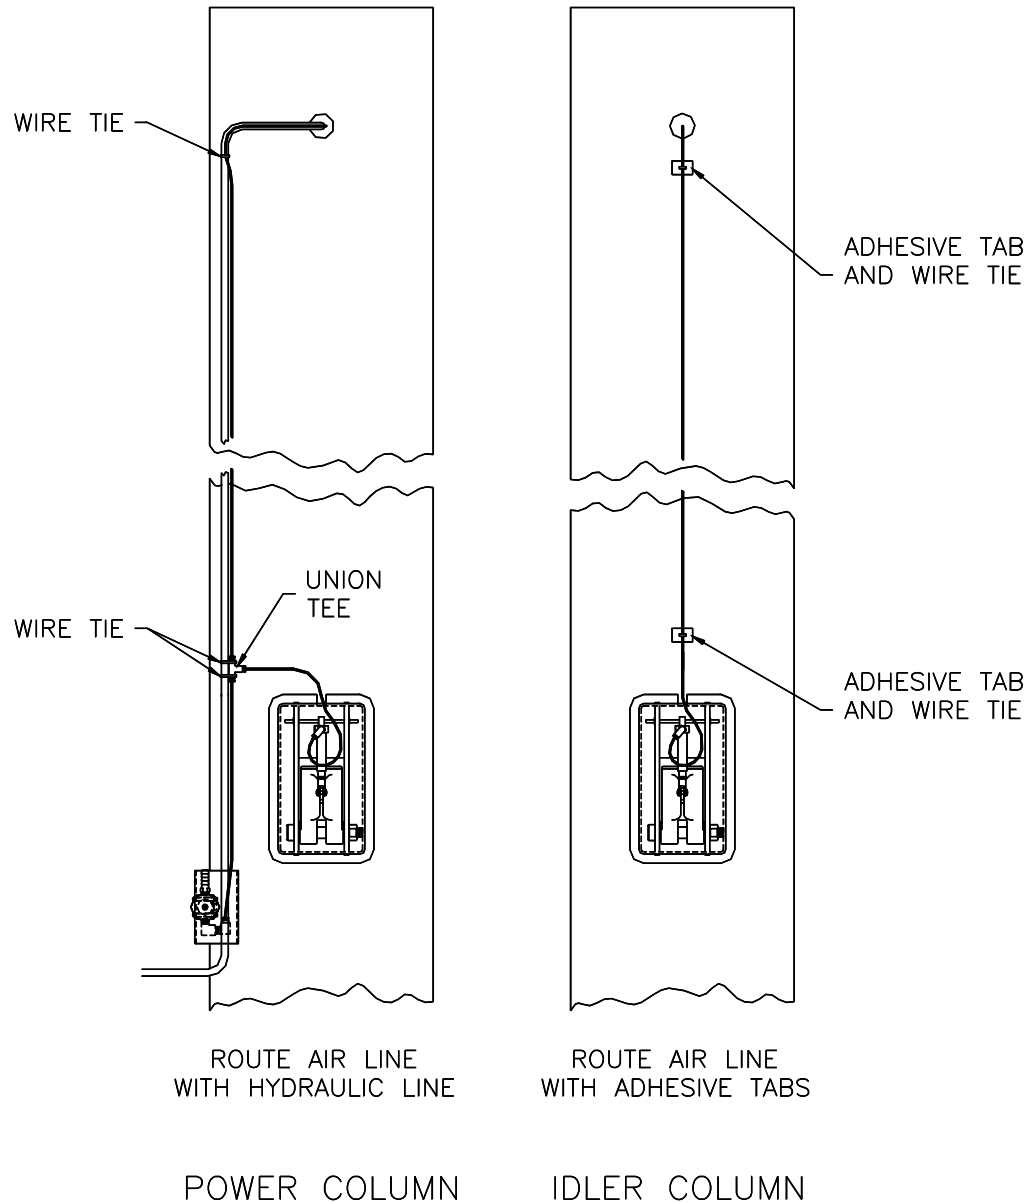

Figure 9
2. Be certain that the wiring in your building will handle the current required to operate this unit (Fig 9).
16. Route the 1/8" air line (Fig. 9). Be certain not to kink or pinch the hose. Connect the button valve to a source of **clean, dry air** using the hose barb and clamp provided. Snap the covers onto the column.